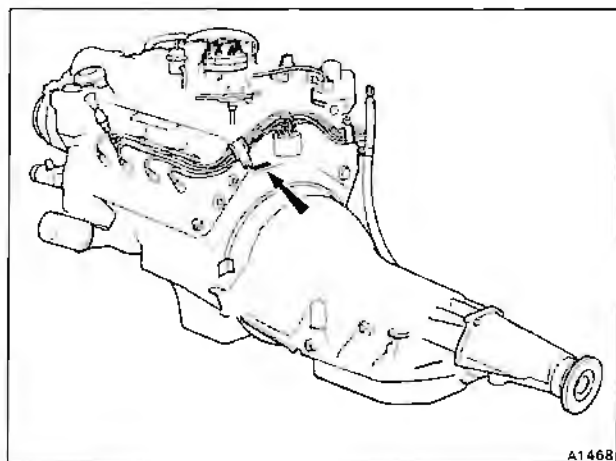

Fig. E2-2 Engine identification number
- The identification number is stamped on a crankcase boss adjacent to the ignition distributor (see fig. E2-2). It is the only number stamped on the engine and should be used for all identification purposes.